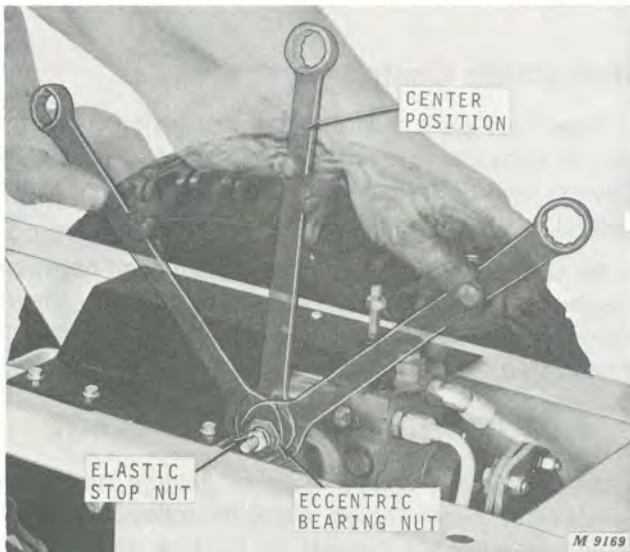

Fig. 5-Adjusting Eccentric Bearing Nut
5. Run engine at idle. With 7/8-inch open end wrench, turn eccentric bearing nut forward until wheel creeps, then rearward until wheel creeps, Figure 5. Adjust for center position of wrench swing.